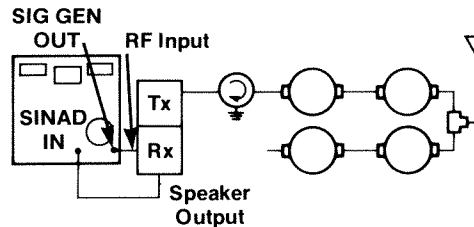

Figure 3
- ⑦ Set the FUNCTION switch to SIG GEN-FM.
- ⑧ To measure the insertion loss of the receiver side of the duplexer connect the SIG GEN OUT/RF IN to the input of the receiver and connect the SINAD input across the speaker, "observe polarity" (See Figure 3).
- ⑨ Perform SINAD sensitivity measurement. (See Rx 4 Part II Receivers) Read the receiver sensitivity in dBm on the VOLTS dBm meter. **Note:** Use 20 dB quieting if monitor is not equipped with SINAD meter.
- ⑩ Connect the SIG GEN OUT/RF IN to the antenna port on the duplexer and measure SINAD sensitivity in dBm on the VOLTS dBm meter.